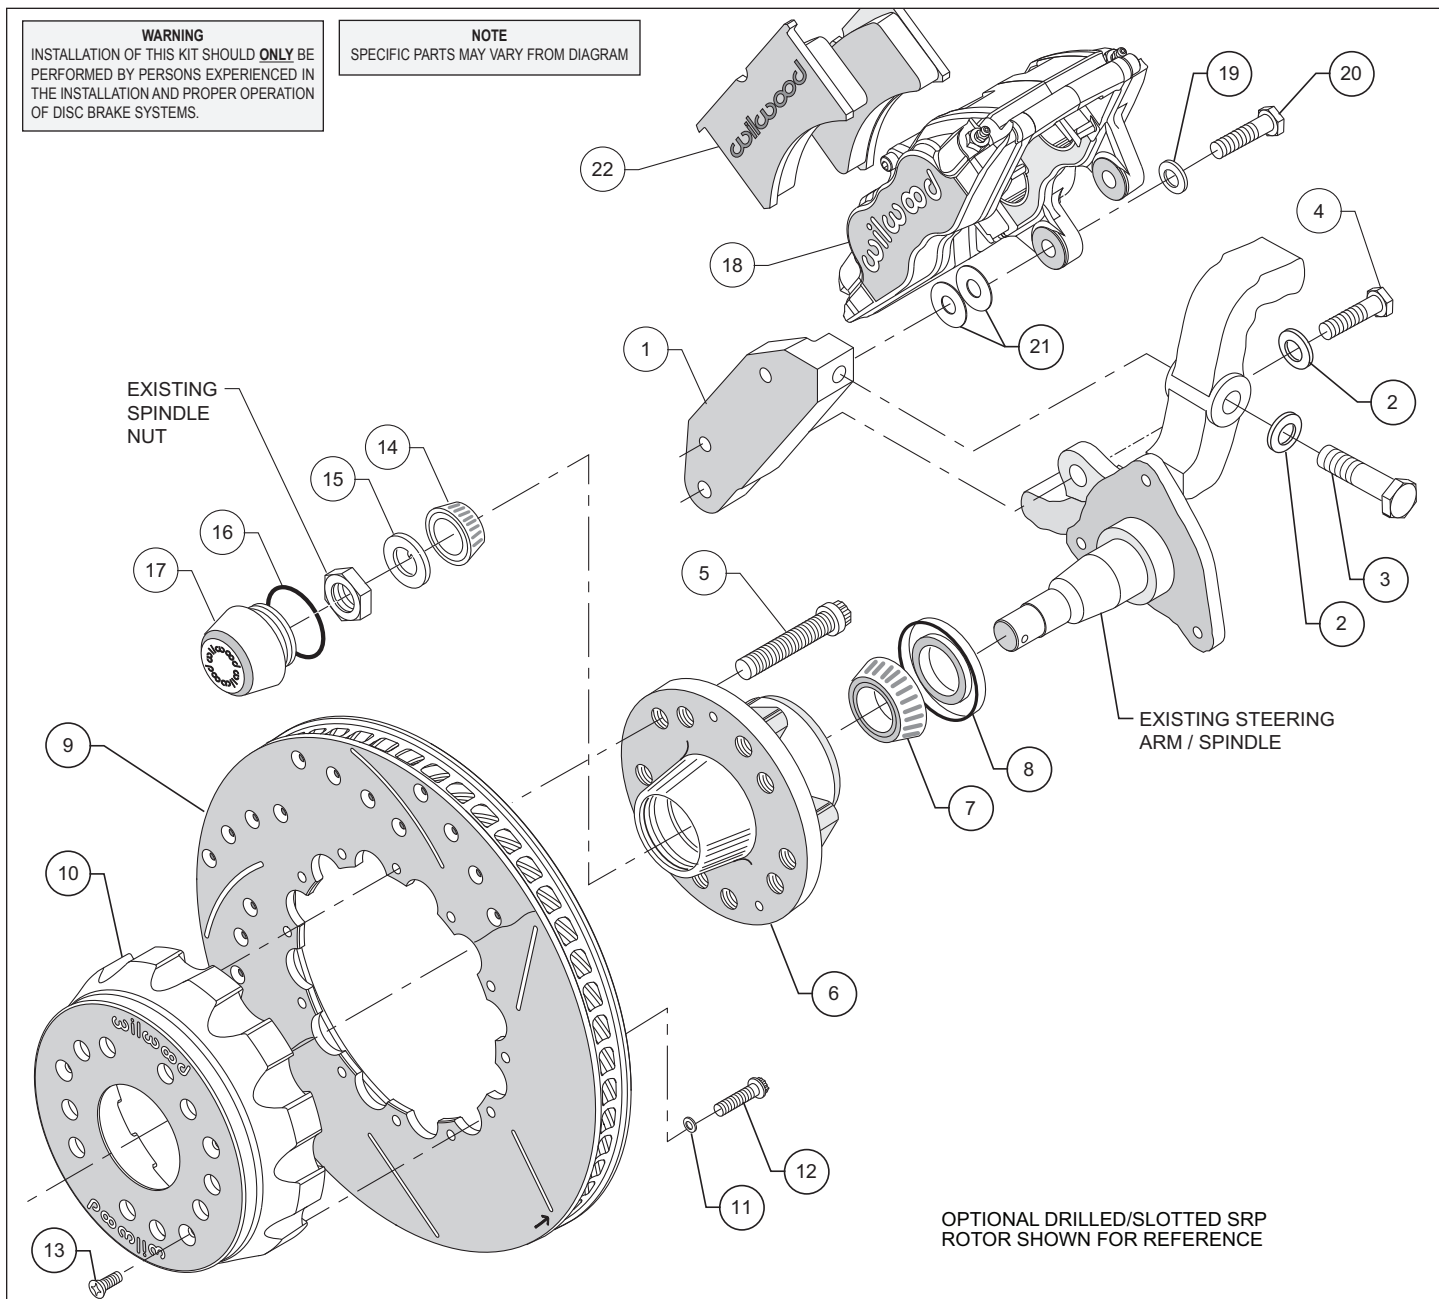
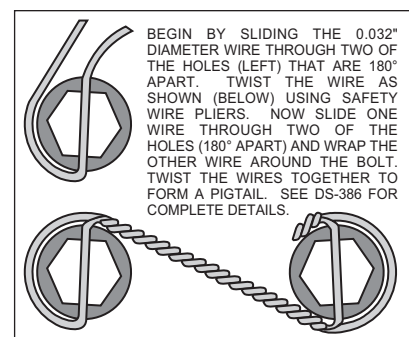

Figure 1. Typical Installation Configuration
Figure 3. Safety Wire Diagram
- The caliper mount bracket assembly (1) should be installed first with clean, dry threads on the mounting bolts. Install the bracket by sliding bolt (4) through washer (2) from the back side through the lower caliper mounting ear on the spindle. Slide bolt (3) through washer (2) from a 90° degree angle on the upper portion of the steering arm. The bracket must tighten squarely against the outboard side of the caliper mount bosses on the spindle body. Inspect for interference from casting irregularities, machining ridges, burrs, etc. Later, after the caliper, pad, and rotor alignment has been checked, and any necessary shims have been put in place, the threads of the mounting bolts should be coated with red *Loctite*® 271 and torqued to 65 ft-lbs.
- Install wheel studs (5) into the hub (6). Torque to 77 ft-lb. **NOTE:** There are two (2) five lug patterns in the hub (5 x 4.50 and 5 x 4.75). Make sure of the correct hole pattern for the correct wheel application before installing studs into hub.
- Pack the large inner bearing cone (7) with high temperature disc brake bearing grease (available from your local auto parts store) and install into the backside of the hub (6).
- Install the grease seal (8) by pressing into the backside of the hub (6).
- Pack the small outer bearing cone (14) with high temperature disc brake bearing grease and install into front of hub (6). Slide the hub assembly (5, 6, 7, 8 and 14) onto the spindle. Secure using spindle washer (15), stock adjusting nut and nut locking device. Adjust wheel bearing pre-load per Original Equipment manufacturer (OEM) specifications.
- Install the o-ring (16) on the dust cap (17), and screw dust cap assembly onto the hub (6). Friction created by the o-ring (16) on the dust cap (17) keeps it from unscrewing.
- With the larger I.D. side of the rotor (9) facing away from the hat (10), bolt rotor (9) to hat(10) through the backside of the rotor using washers (11) and bolts (12). Torque bolts (12) to 85 in-lb. Safety wire bolts (12) using standard 0.032 inch diameter stainless steel safety wire as shown in Figure 3. Please refer to Wilwood's data sheet DS-386 (available at www.wilwood.com/Pdf/DataSheets/ds386.pdf) for complete safety wire installation instructions.
- Slide the rotor/hat assembly over the studs (5) in the hub (6) taking care to align the small countersunk holes in the hat (10) with the small threaded holes in the hub (6). Install three flat head socket head screws (13) through the small holes in the hat (10) and torque to 85 in-lb.
- Mount the caliper (18) onto the caliper bracket (1) using washers (19) and bolts (20) as shown in Figure 1. Initially place two .030 thick shims (21) between the caliper and the bracket. Temporarily tighten the mounting bolts and view the rotor (9) through the top opening of the caliper. The rotor should be aligned in the center of the caliper. If not, adjust by adding or subtracting shims (21) between the caliper and bracket. Apply red *Loctite*® 271 to bolt threads and torque to 42 ft-lb.
- Remove the caliper bridge spacer and bolt. Install the disc brake pads (22), then reinstall the caliper bridge spacer and bolt.